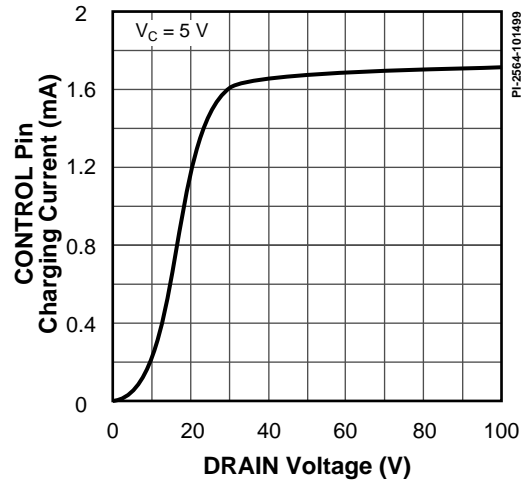

Figure 67. I_C vs. DRAIN Voltage.
- E. It is possible to start up and operate *TOPSwitch-GX* at DRAIN voltages well below 36 V. However, the CONTROL pin charging current is reduced, which affects start-up time, auto-restart frequency, and auto-restart duty cycle. Refer to Figure 67, the characteristic graph on CONTROL pin charge current (I_C) vs. DRAIN voltage for low voltage operation characteristics.